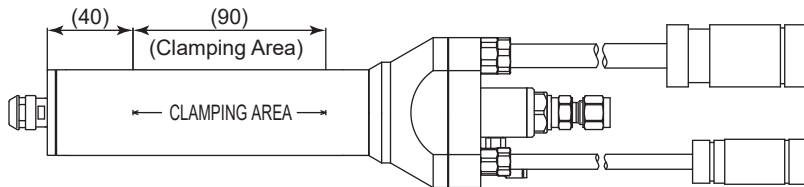

Fig. 27
(1) When mounting a Motor Spindle, refer to the Clamping Area etched on the Motor Spindle (Fig. 27).